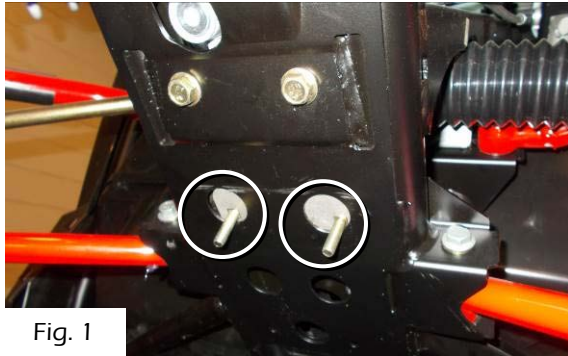

Fig. 1
- 1) Install the front bracket **03** and two (2) M8-1.25 x 45 mm carriage bolts **04**. Install the attachment plate **01** under the vehicle only using the two (2) bolts **04** installed previously and the two (2) M8-1.25 nuts **05** (this step is used only to drill holes in the skid plate of the vehicle). See Figures 1 and 2.
- 6) Pass two (2) 92.9 mm square bend U-bolts **B** in the vehicle frame in holes previously drilled. See Figure 1 if needed.